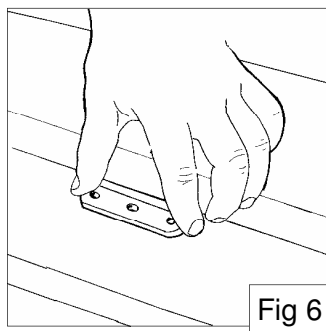

Fig 6
3. **Floor Mounts;** parallel with the sides of the vehicle. (Fig. 6)